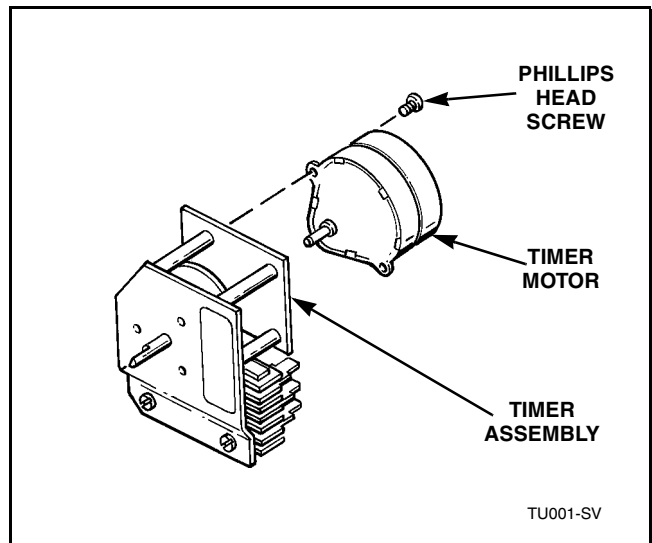

Figure 6
- c. Remove screws holding timer motor to mounting bracket. Refer to *Figure 6*.